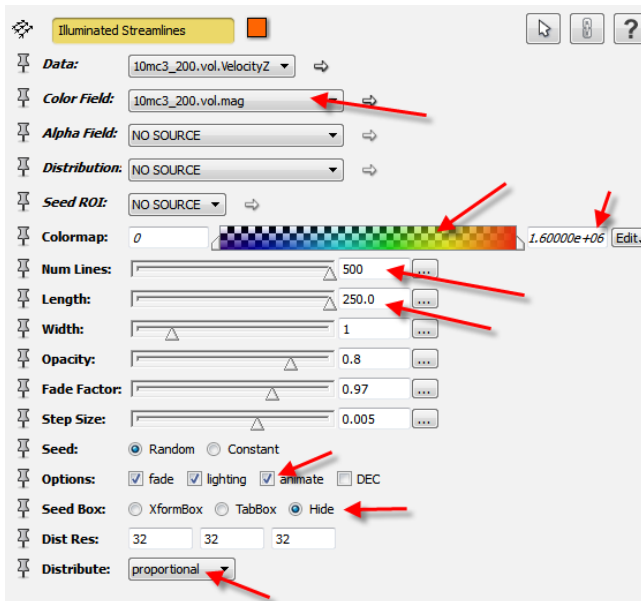

Figure 12.19: Modified parameters for *Illuminated Streamlines* representing the velocity field in the experiment simulation are highlighted by red arrows.
- Right-click on `10mc3_200.vol.VelocityZ` and select *Display > Illuminated Streamlines* and set its parameters as described in Figure 12.19.